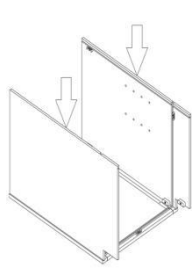

figure2
2. **Installing the side panels (Figure2):** Insert the left and right panels(B) into the grooves of the face frame (A) and align the Cam lock connectors.Lock the cam with a screwdriver by turning the screw 180° degrees clock wise.